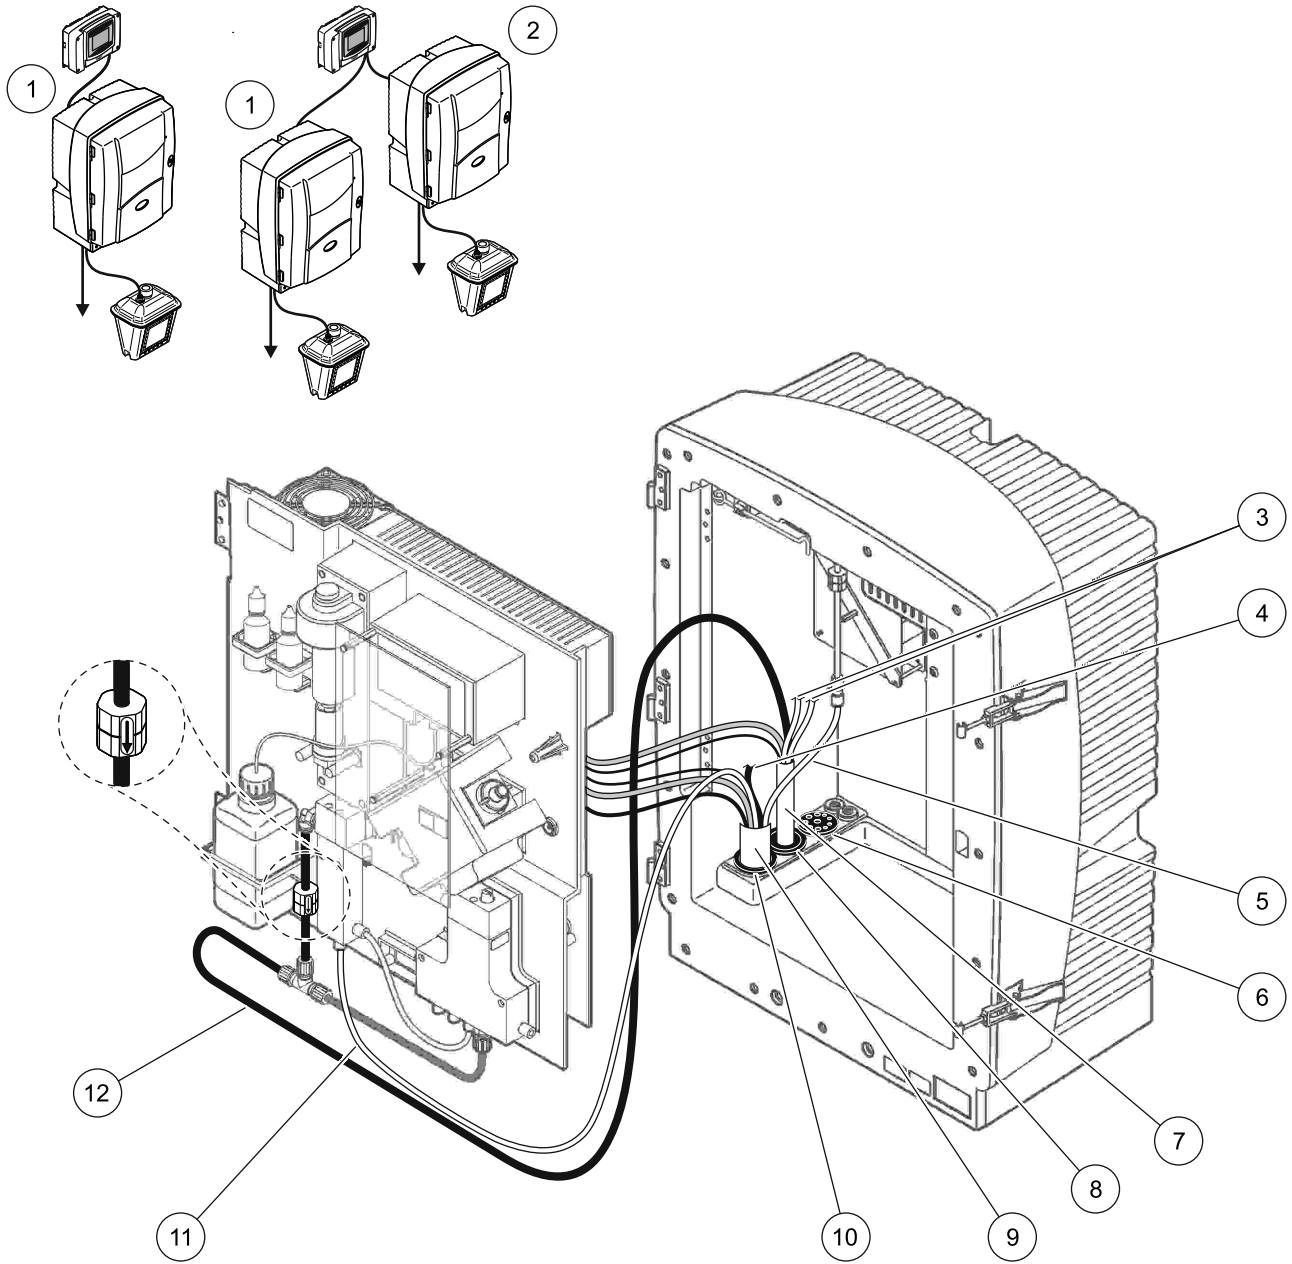

Figure 30 Option 2 setup
Refer to Figure 30 and the following instructions for Option 2:
2. Feed the Filter Probe sc hose (sample lines, electrical cables, drain tube) through the analyzer opening (item 9, Figure 30). Use Seal Plug #2 to secure.